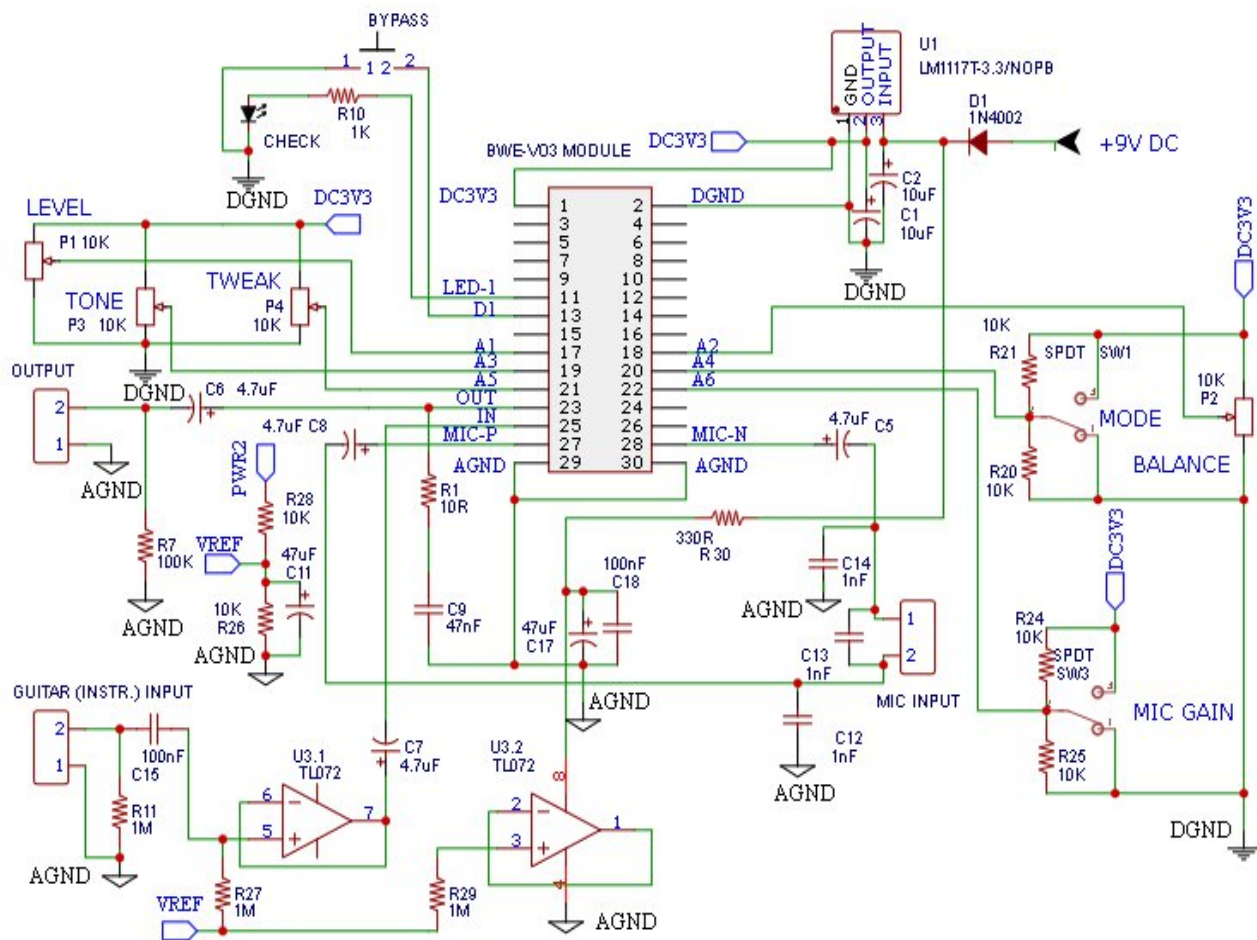

Figure 1. Typical BWE-VO3 Vocoder Circuit
- **Updated circuit diagram (Figure 1, Figure 2)**
Figure 1 shows the schematic diagram of typical BWE-VO3 vocoder circuit. Compared to the BGPM-2 circuit shown in the Figure 2, the vocoder circuit has less components since it uses only the left channel and doesn't need the 1P8T rotary selector switch.